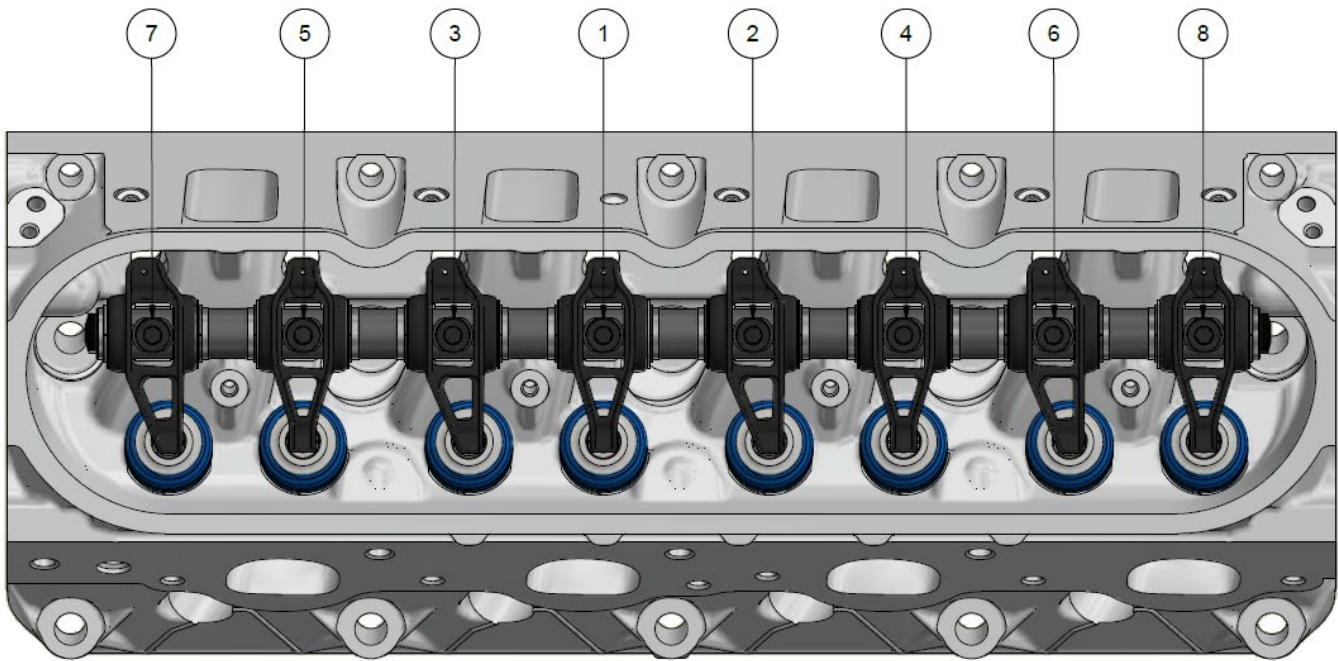

Figure 1 - Rocker Arm Bolt Torque Sequence
10. Begin turning in each bolt 1 turn at a time, following the sequence shown in *Figure 1*, until the rocker shaft is fully seated on the pedestals.
11. After the shaft has been drawn down to all pedestals, torque each rocker arm bolt to **30 N-m (22 lb-ft)** following the same tightening sequence shown in *Figure 1*.